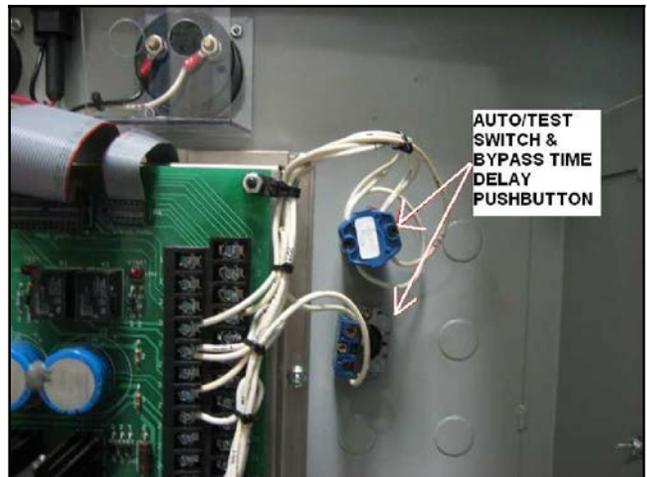

**Figure 7** Auto/Inhibit ATS Disconnect Switch
9. Disconnect the Auto/Inhibit ATS disconnect switch. See Figure 7 and Figure 8.